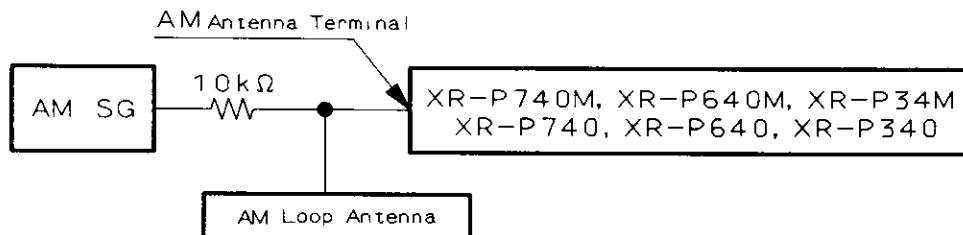

Fig. 1-2 AM (MW) Adjustment Connection Diagram
- Connect the wiring as shown in Fig. 1-2.